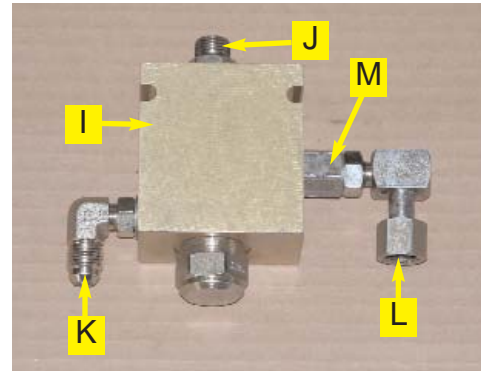

Figure 8a. Assembled load sense shuttle.
a. Assemble the load sense valve (**I**) with adapter fittings (**J**), (**K**), (**L**) and (**M**). (Figure 8a.)